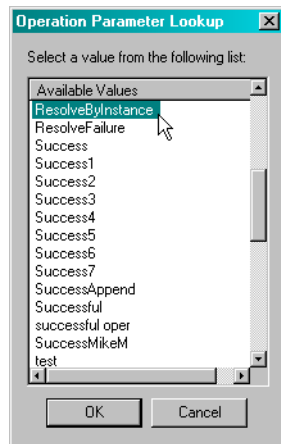

Figure 34-5. Select a parameter from the list of available parameters, then click **OK**.
- ❶ Right-click under the **Value** column next to the Property you want to change, and select **Lookup** from the drop-down list.
- ❷ The Parameter Lookup dialog appears with a list of available parameter values. Click on the parameter you want to use. See Figure 34-5, below.